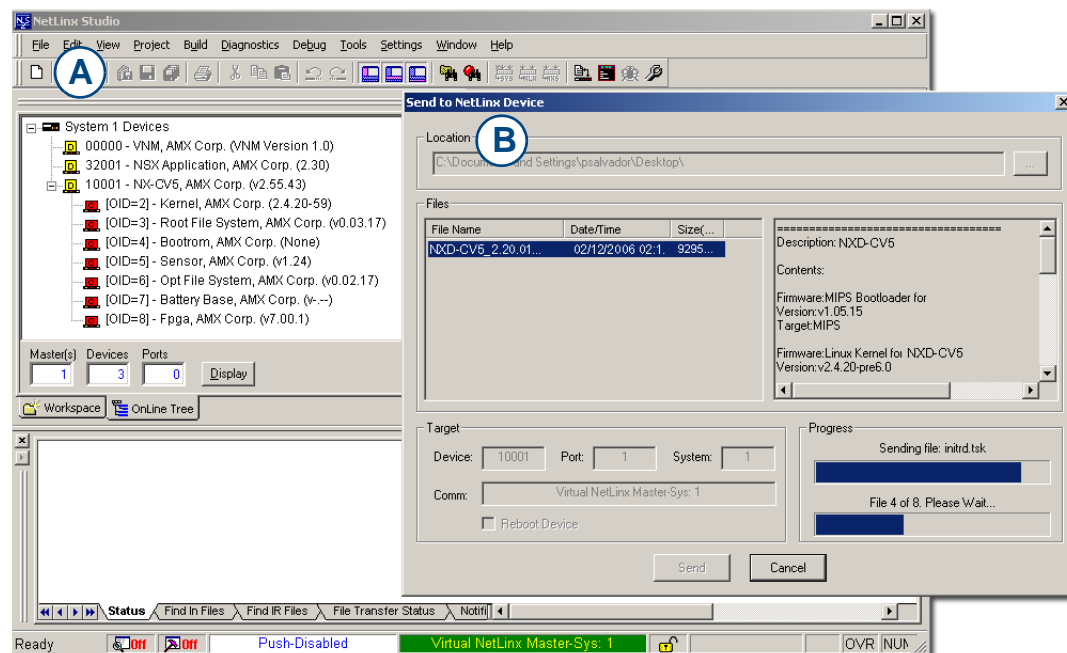

FIG. 46 Using USB for a Virtual Master transfer
6. From within Studio, select **Tools > Firmware Transfers > Send to NetLinx Device** from the Main menu to open the Send to NetLinx Device dialog (B in FIG. 46). Verify the panel's System and Device number values match those values listed within the System folder in the **OnLine Tree** tab of the Workspace window (A in FIG. 46).
10. Click **Send** to begin the transfer. The file transfer progress is indicated on the bottom-right of the dialog (**B** in FIG. 46).